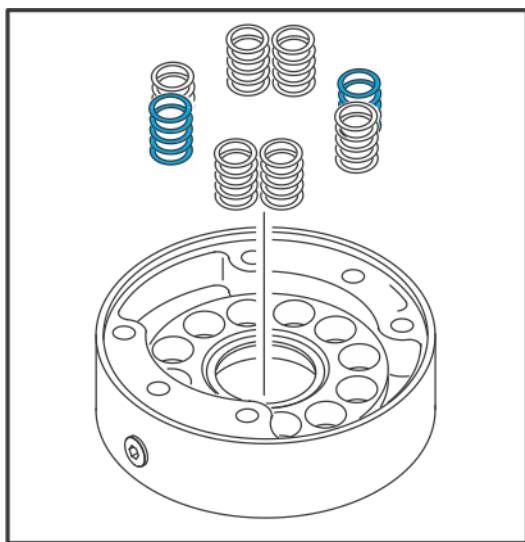

Figure 3-48. Swing Brake 8 Spring Orientation
3. Assemble correct quantity of springs (8) in orientation required. Refer to (See Figure 3-48.) and (See Figure 3-49.).